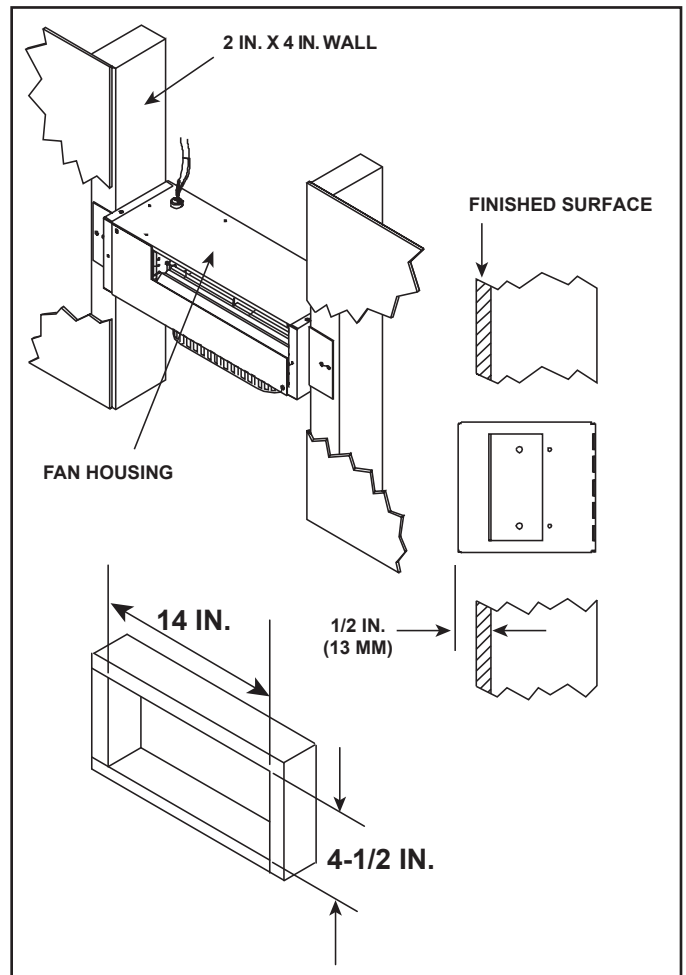

Figure 6.13 Wall Mounting (2 X 4)
**Note:** The brackets can be rotated 180° and mounted to the back side of the 2 x 4 if necessary. See Figure 6.13.
If the fan housing is installed in a 2 x 4 wall, the front of the housing will protrude approximately 1/2 in. (13 mm) out of the wall. See Figure 6.13.